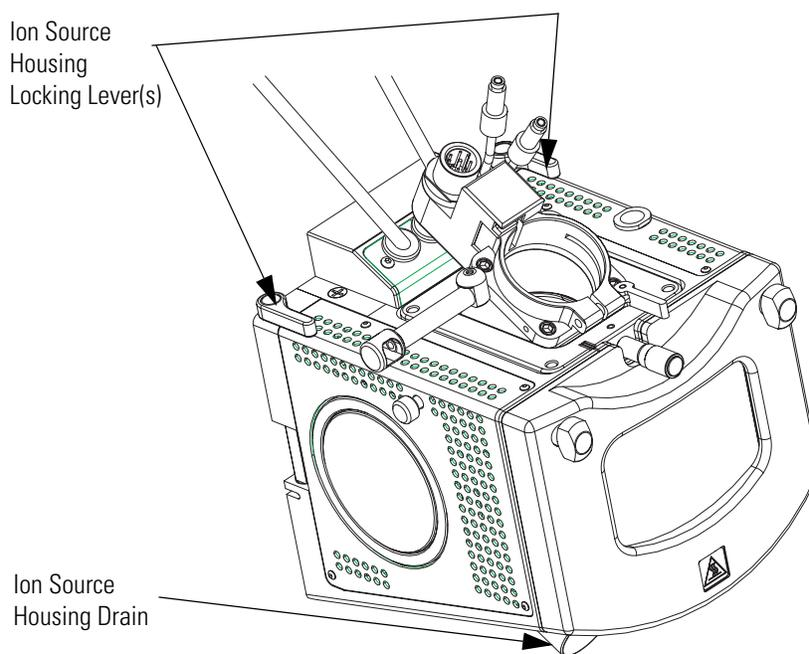

Figure 51. Ion Max ion source housing, detail of components
1. Remove the drain tube from the ion source housing drain. See Figure 51.